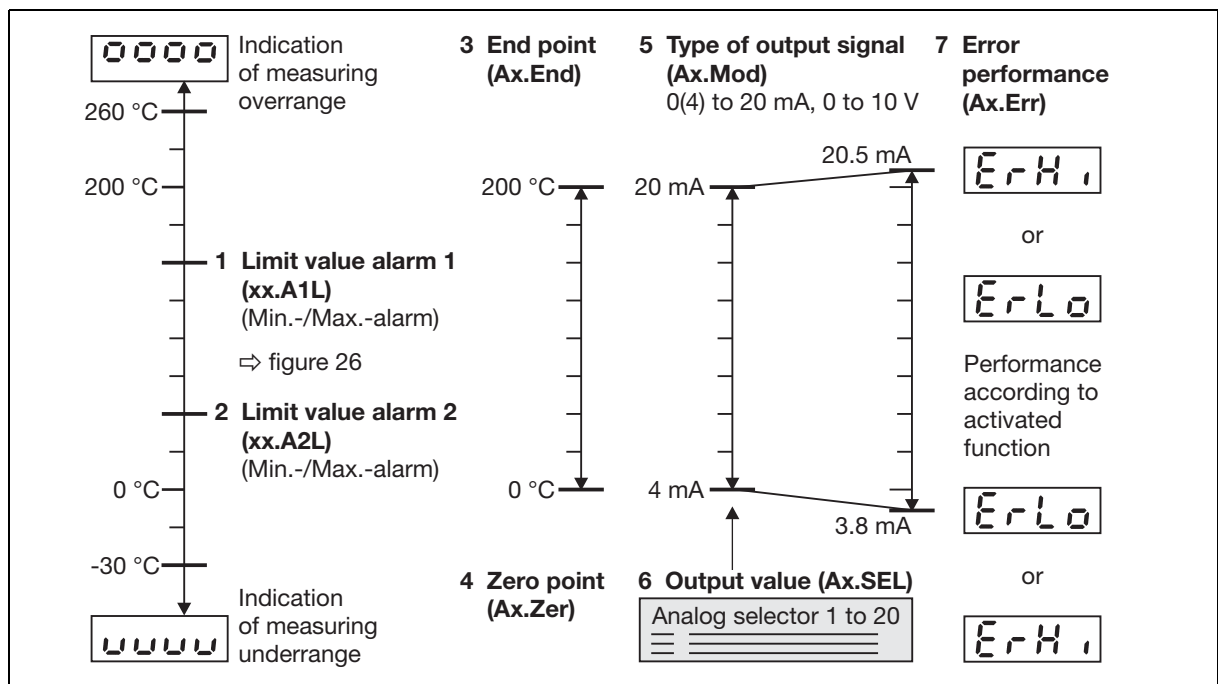

Fig. 9-1 Analog outputs 1 to 4
This function defines how the output is operated (see Fig. 9-1, item 5). Current and voltage outputs can be used. Depending on the receiver type, two or four analog outputs are available.
The actual value to be issued at the selected output is defined here (see Fig. 9-1, item 6). In addition to the actual values of the 16 wireless inputs, four Modbus remote control values are available in the analog selector.
The zero point and the end point (see Fig. 9-1, item 3 and item 4) permit the entire measuring range or part of it to be displayed at the output (e.g. 0 to 200 °C).
The type of error message to become active under the following conditions is set here (see Fig. 9-1, item 7):